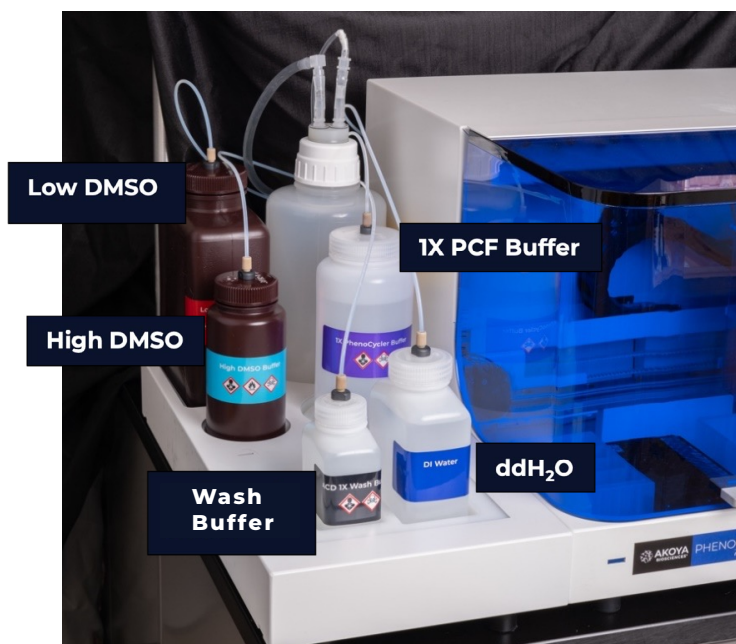

Figure 6.4. PhenoCycler-Fusion 2.0 sidecar containing buffers.
- To fill the buffer bottle in the PhenoCycler sidecar. (See Figure 6.4.)
8. Return the filled low and high DMSO bottles to the appropriate locations on the sidecar of the PhenoCycler instrument. (See Figure 6.4.)